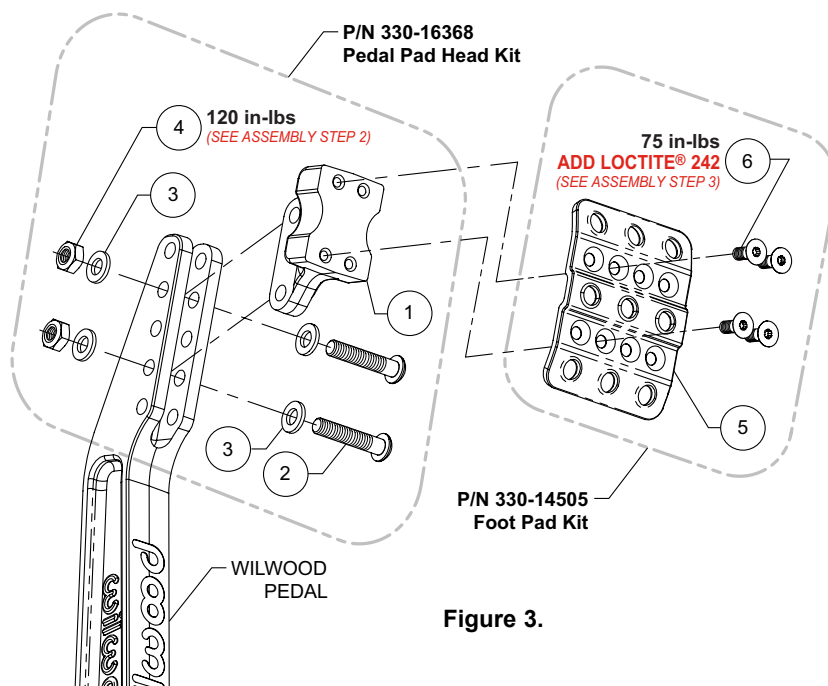
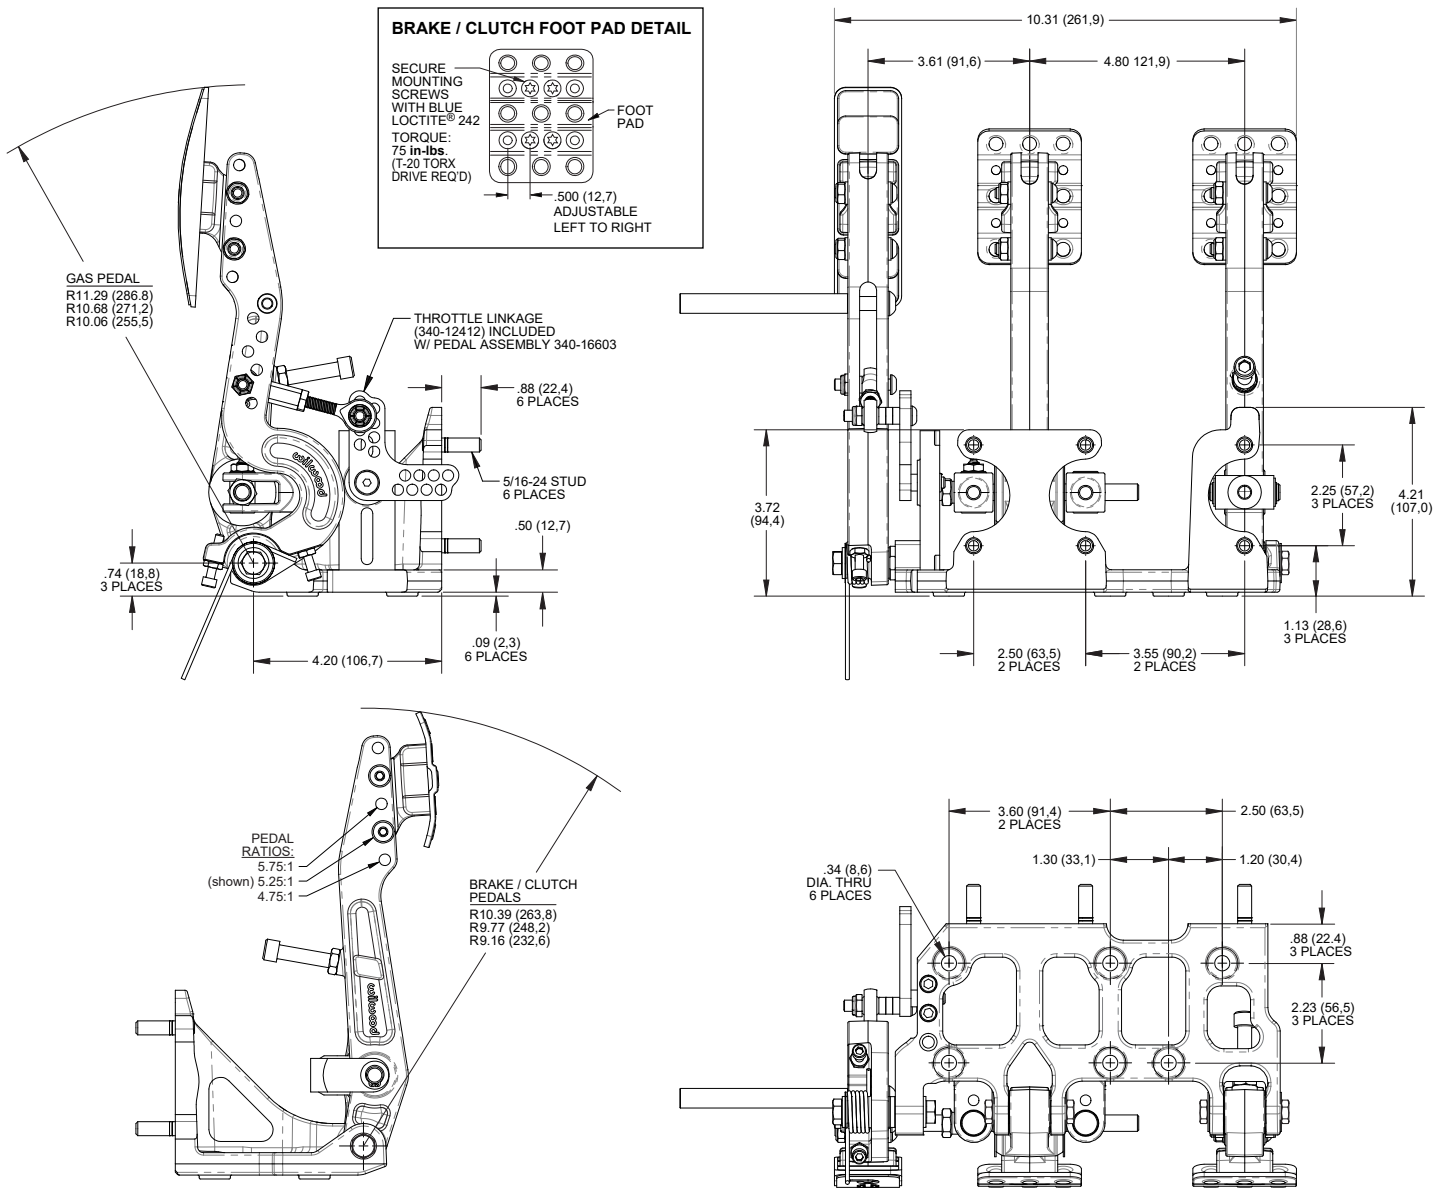

Figure 3.
Figure 4. Forward Mount Triple Pedal Assembly, Physical Dimensions, 4.75:1 to 5.75:1 Adjustable Ratios (p/n's 340-16602 & 340-16603)
Refer to page 6 and Figure 4 for vehicle installation instructions and mounting dimensions.
NOTE: Refer to Figure 3 on page 5 for detailed instructions on assembling the pedal pad heads and foot pads
STEP 1 Install the pedal pad head (1) into the “fork” of the pedal arm in the desired location as shown in Figure 3. Secure in place using bolts (2), washers (3), and locknuts (4).
STEP 2 Torque locknuts (4) to value indicated in Figure 3.
STEP 3 Orient foot pad (5) as shown in Figure 3. Pad may be installed in three different positions as shown in Foot Pad Detail of Figure 4, page 6 (not applicable to throttle foot pad). Secure to pedal head (1) using four T-20 drive Torx screws (6). Apply blue *Loctite*® 242 to the threads and torque to value indicated in Figure 3.
STEP 4 Apply grip tape sticker (8) to throttle foot pad (7) (both not shown) after attaching foot pad to pedal head.
•Mount the final pedal assembly to the floor using six .34" through holes as shown in Figure 4. Attach the pedal assembly to sturdy beams or plates with six 5/16" bolts. Pedal assembly must be rigidly attached to frame and not deflect under heavy pedal forces. **NOTE:** Pedals must be free from obstructions over their entire range of motion. Allow enough space so balance bar adjustments can be made and master cylinders are accessible.